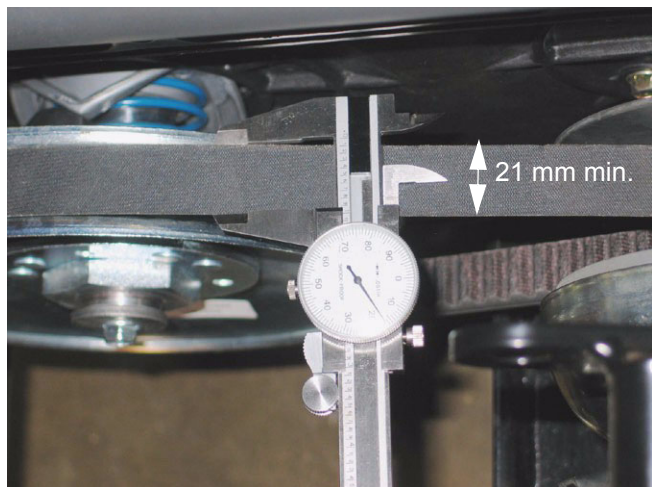

Figure 5.19
- 5.19. Inspect the belt and clutches (pulleys) for obvious damage and wear: See Figure 5.19.